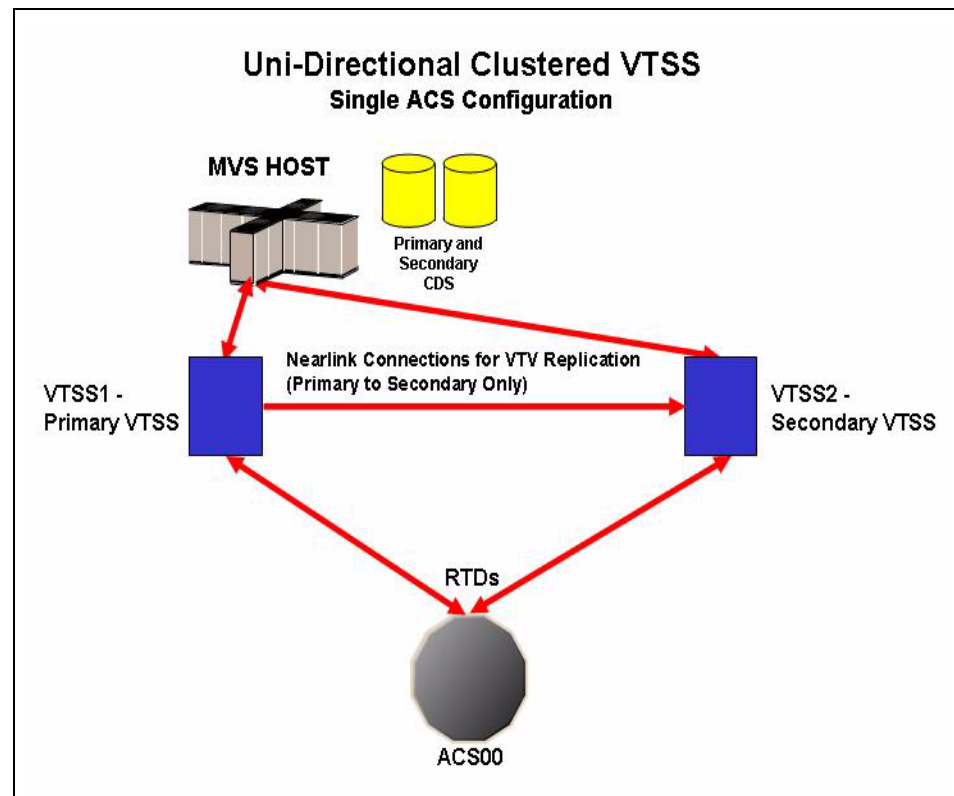

Figure 3. Uni-Directional Cluster attached to a Single ACS
- *Uni-Directional Clusters*, which consist of a *Primary VTSS* and a *Secondary VTSS* connected by one or more cluster links (CLINKs). Figure 3 shows a Uni-Directional Cluster attached to a single ACS. The CONFIG CLUSTER statement defines the Cluster, and the CONFIG CLINK statement(s) define this the Cluster as Uni-Directional.